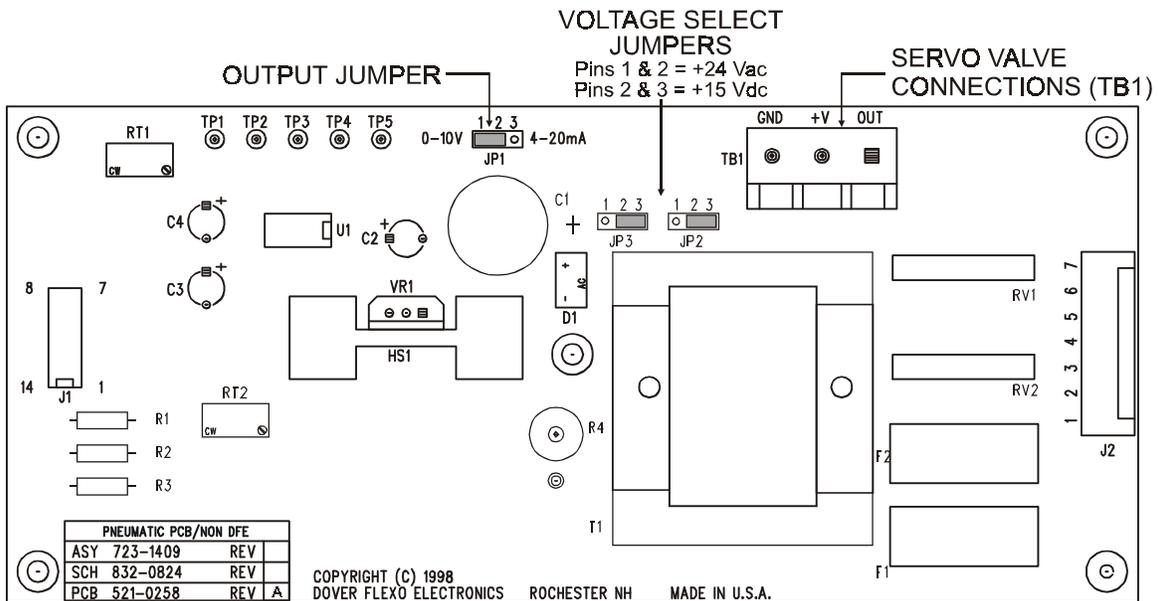

Figure 41 - NON-STANDARD SERVO VALVE DRIVER CARD (top view)
4. Make electrical connections between your servo valve and the Driver card as shown in Figures 41, 44.